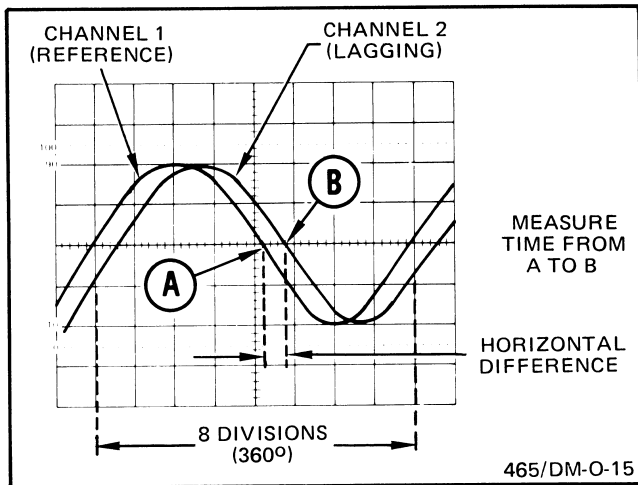

Fig. 2-11. Phase difference.
6. Turn the variable (X1-X10) SEC/DIV control until one cycle of the reference signal (Channel 1) occupies exactly eight divisions between the first and ninth graticule lines (see Fig. 2-11). Each division of the graticule represents 45° of the cycle ($360^\circ \div 8 \text{ divisions} = 45^\circ/\text{division}$).
Assume a horizontal difference of 0.6 division with a sweep rate of 45°/division as shown in Fig. 2-11.